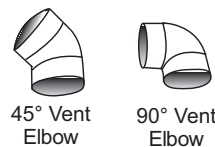

Figure 11. Correct and Incorrect Pipe Fittings
IMPORTANT: Do not use vent elbows in this vent pipe installation. See Figure 11.
3. See Figure 11 from "Vent Pipe Termination" on page 23 to properly locate the inlet and exhaust terminals.